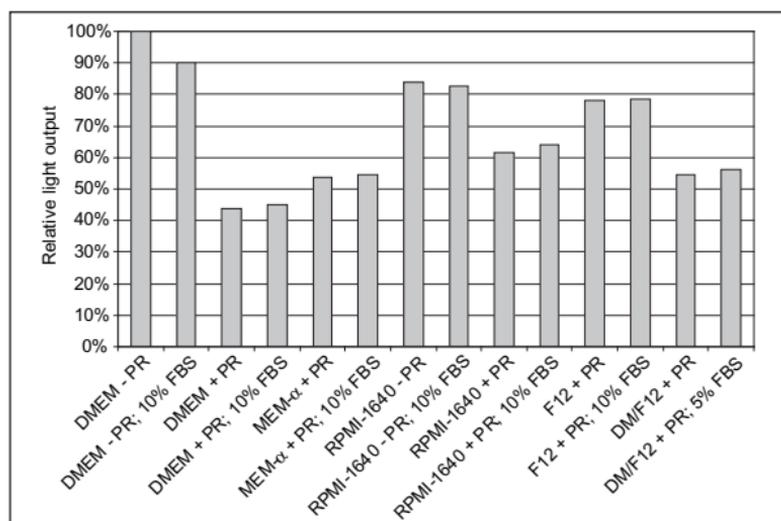
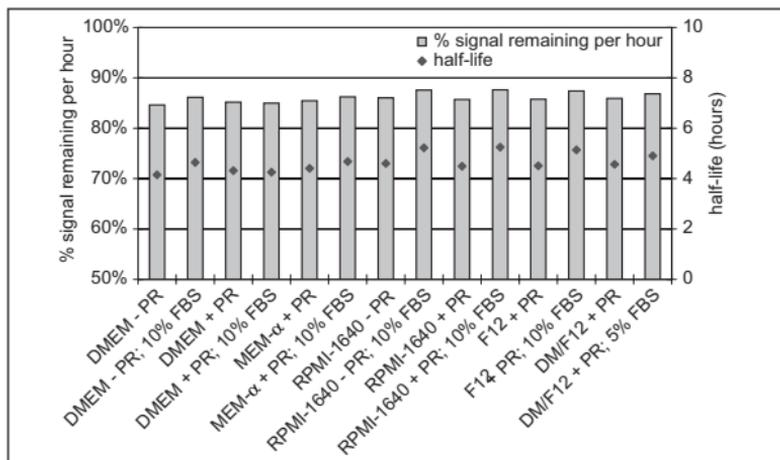

Figure 4: Relative light output in different media
Figure 5: Signal stability in different media expressed as a percentage of signal remaining per hour and half-life (hours)
To assess the influence of different culture media on luminescence light output, the following experiment was performed using commercially available basal media in the presence and absence of Fetal Bovine Serum (FBS) and Phenol Red (PR). 100 μL steadylite plus was added to 100 μL samples of the different media in a white 96-well OptiPlate, where each sample contained luciferase at a concentration of 2×10^{-9} gram per mL. After shaking the plate, the light output was measured using a TopCount NXT. Figure 4 illustrates the results of the relative luminescence after 15 minutes count delay. Figure 5 shows the results of the stability of the signal as a function of the culture media used.
The results from Figure 4 show that the light output is to some extent affected by FBS but that Phenol Red has a much larger impact on the light output reflecting the concentrations of Phenol Red in the basal media. Consequently the use of Phenol Red in culture media should be avoided to attain the highest signal. The stability of the luminescent signal is only somewhat dependent on the media as shown in Figure 5.
- Phenol Red, as well as other colored compounds, will chemically not interfere with the luciferin/luciferase reaction, but will quench some of the emitted light, resulting in lower assay signals (see Figure 4). For optimal light output, the culture medium can be substituted with **Dulbecco's PBS containing calcium and magnesium ions** prior to the addition of steadylite plus.